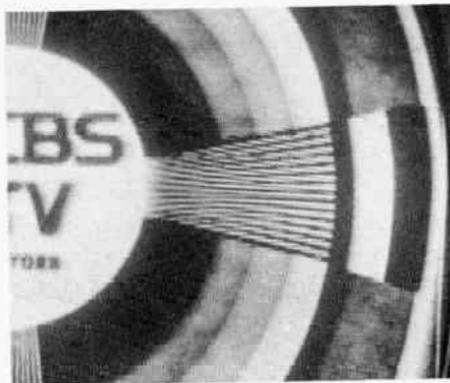

Fig. 4-I. Poor interlace as indicated by moire effect on horizontal wedge.
**SERVICE:** Usually caused by breakdown of components in anti-hunting network in afc circuit or associated components. See also gear tooth effect on screen. Anti-hunting networks are enclosed in dashed lines in Figs. 4-H, 5-H, and 6-H.
**SYMPTOMS:** Poor interlace indicated on screen by moire effect of horizontal wedge in test pattern. White horizontal sweep lines not equally spaced but close together, or both light and dark. Pairing of lines with black space between is especially noticeable on large screens. Horizontal lines look coarse. See Fig. 4-I.